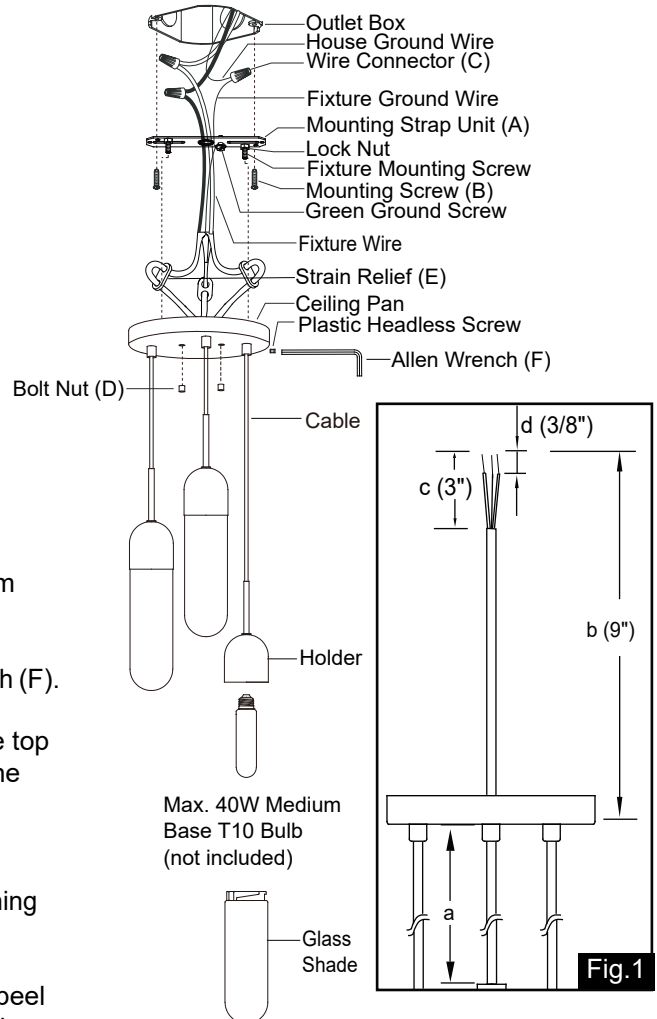

Fig.1
1. Unscrew two bolt nuts (D) and remove mounting strap unit (A) from the canopy.
2. Loosening cable by screwing plastic headless screw, using allen wrench (F).
3. Measure the desired length of the cable (a) from the canopy to the top side of the cap nut and leave an additional 9" of cable (b) above the canopy (include the canopy), then cut off the unnecessary cable. (See Fig.1)
4. Adjust strain relief (E) at 9" position from the top of the cord, fastening cable by screwing plastic headless screw, using allen wrench (F).
5. Mark the 3" of cord (c) from the top of the cord (b). Use a knife to peel off the insulation of the cord (c) carefully to expose the 3 wires on the inside. (See Fig.1)